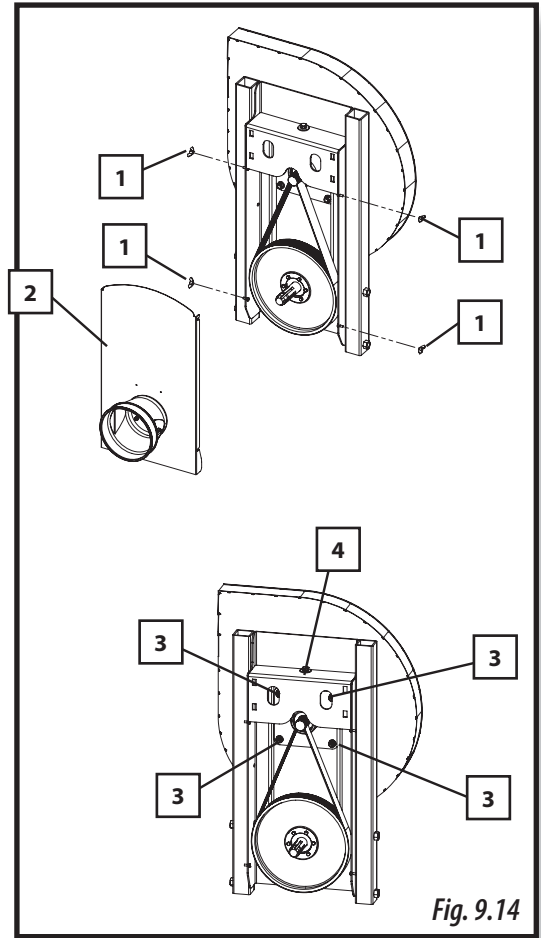

Fig. 9.14
- 1- Loosen the wing nuts (1, Fig. 9.14) in order to remove the transmission's lid (2, Fig. 9.14).
- 2- Loosen the four nuts of the tensioner (3, Fig. 9.14).
- 3- Operate on the screw (4, Fig. 9.14) to adjust the tension of the belt.
- 4- Tighten the nuts (3, Fig. 9.14) to lock the pulley's position.
- 5- Place the lid back and tighten the wing nuts (1, Fig. 9.14).